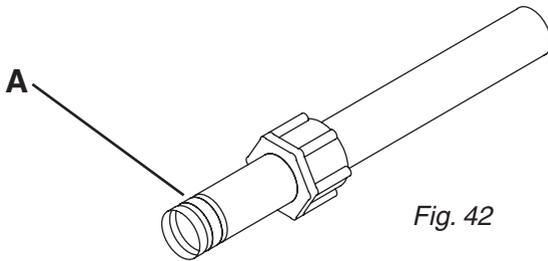

Fig. 42
The O-rings (A)(Fig. 42) need to be lubricated **ALL THE WAY AROUND** before mounting fittings on to the stainless steel nozzle and feed tubes.